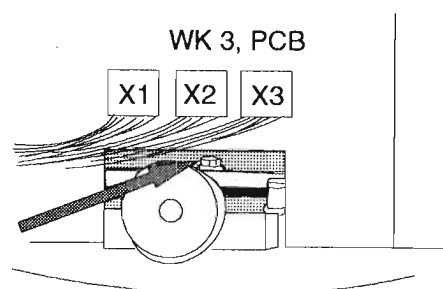

Fig 4: Use open ended spanner no.7
- see Fig. 4 for centring of the image use the two nuts (both nuts are reachable via WK3, rotate the camera + and - 90°)